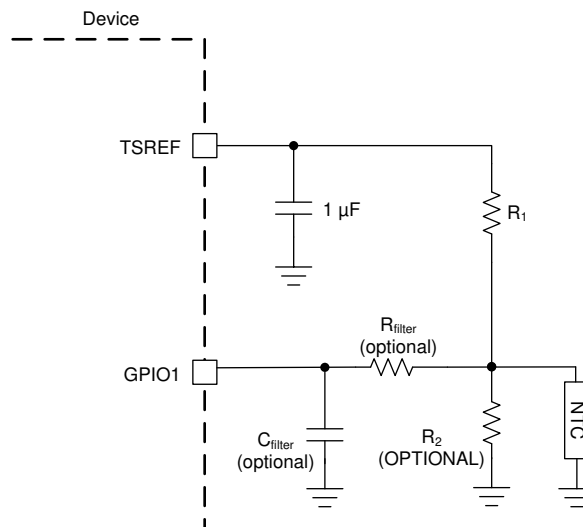

图 9-6. Thermistor Connection
图 9-6 shows the thermistor circuit when GPIO is enabled for thermistor measurements. MCU ensures TSREF is enabled by setting $CONTROL2[TSREF_EN] = 1$ and settled before taking the measurement value.
- $R1$ is the pull-up resistor as shown in 图 9-6 with the assumption the $R2$ is not used